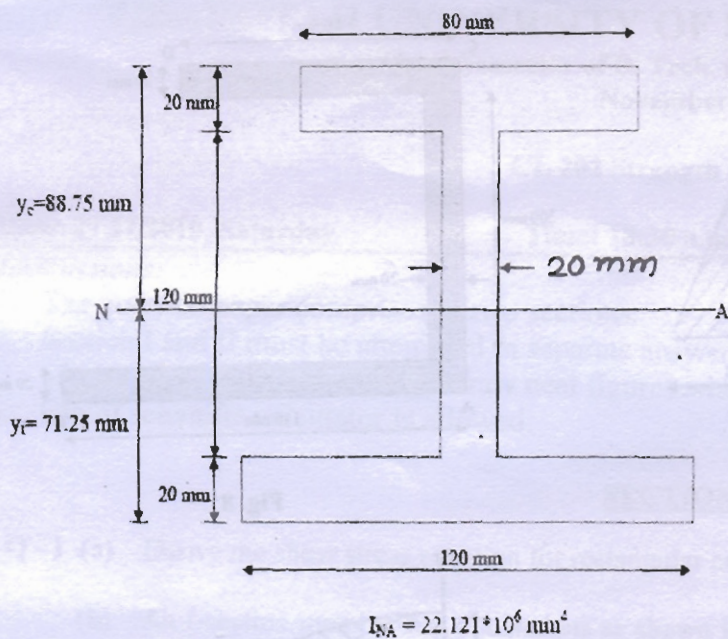

Fig. 1
- (b) An I-section member has dimensions as shown in Figure 1. The member is used as a simply supported beam of span 4.0 m. Calculate the uniformly distributed load which can be applied over the entire span length such that maximum shearing stress induced in the cross-section is not to exceed 4.0 MN/m^2 . Find out the maximum bending stress induced in the beam? 04